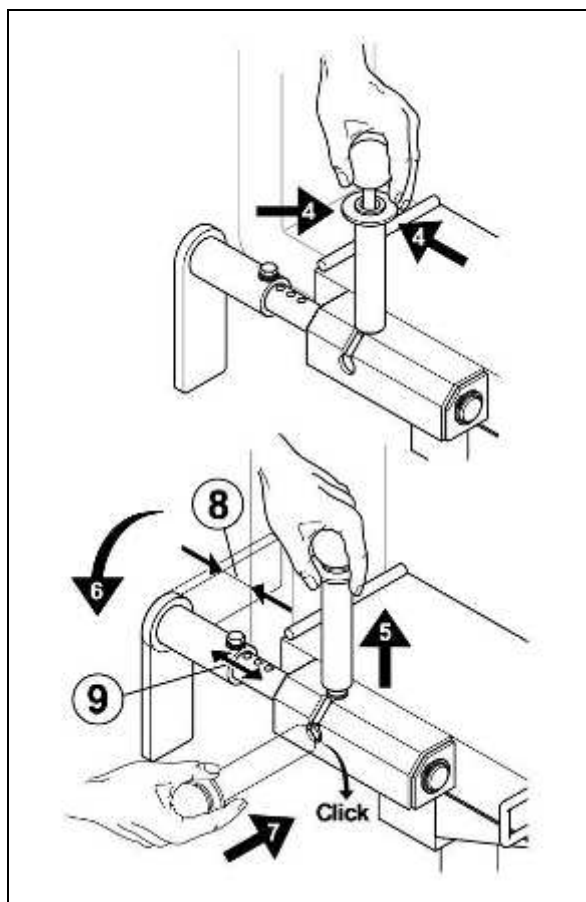

Fig. 4.5
- Set distance (1) of the fork tines before moving into the carrier vehicle!
- Locking hooks must point to the ground (2).
- Push fork tines into the take-up (3).
- Carry out steps (arrows) 4-7 Insert locking hooks (Fig 4.5).